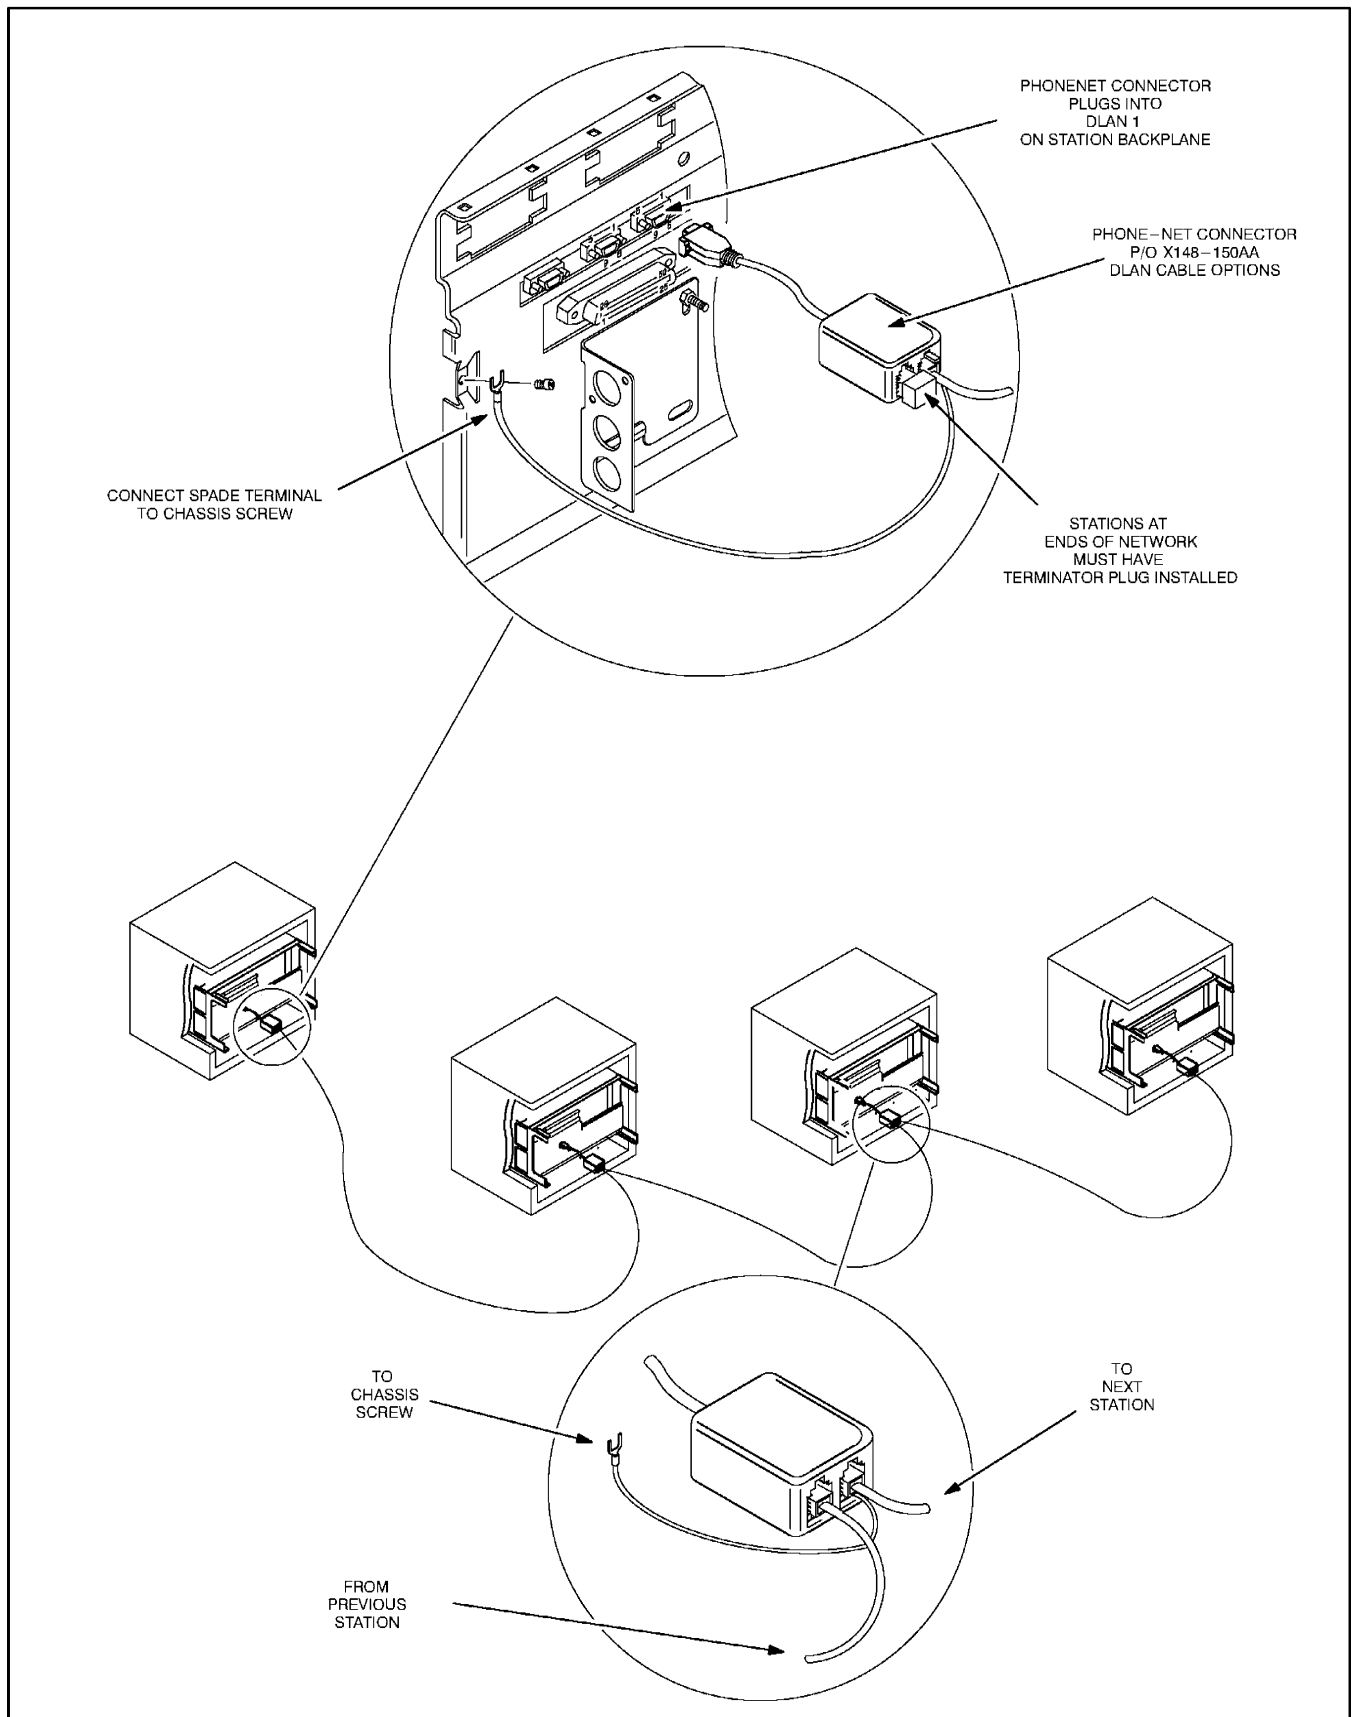

Figure 21. IntelliRepeater Trunking Site D-LAN Network Cabling Detail
- Step 2.** Connect the 9-pin D-type connector (part of the *PhoneNet* interface box) to connector DLAN1 (located on the station backplane, as shown in Figure 21).
- Step 4.** Select the end of the telephone cable with a ground wire and spade terminal attached. Connect the RJ-11 connector into the empty port of the *PhoneNet* interface box; connect the spade lug to the station chassis screw, as shown in Figure 21.
- Step 6.** Connect the stations together in a “daisy chain” fashion, as shown in Figure 21. Remember to connect the ground wire and spade terminal to the station chassis screw on each station.